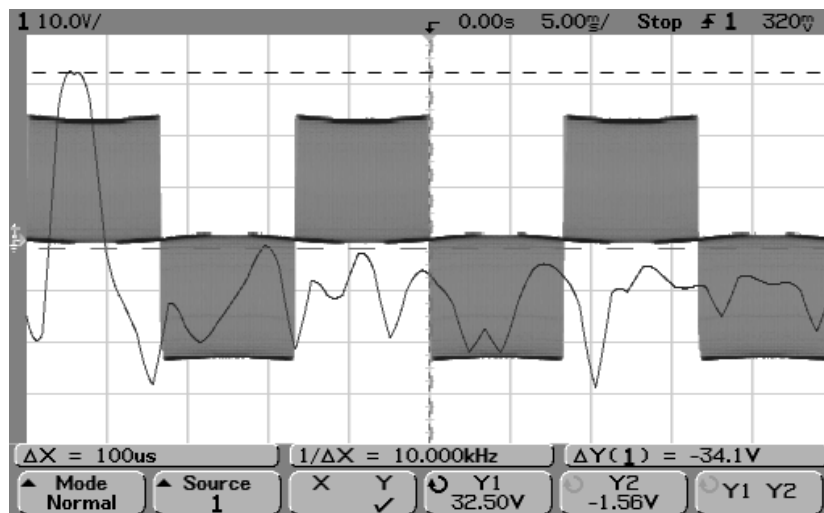

Figure 14. Low-frequency harmonics for $0.9 < m_a < 1.0$ are at least 30db down
2. The lower-frequency harmonics of V_{cont} become much more significant in the overmodulation and saturation regions. With $0.90 < m_a < 1.0$, change the span to 1kHz, and the center frequency to 500Hz. Adjust the sample rate to 40kSa/s. The FFT results should be similar to those in Figure 14. Note that the harmonic multiples of 60Hz below 1kHz are at least 30db down from the fundamental (remember that 20db is a power of 10, 40db is a power of 100, and so on).